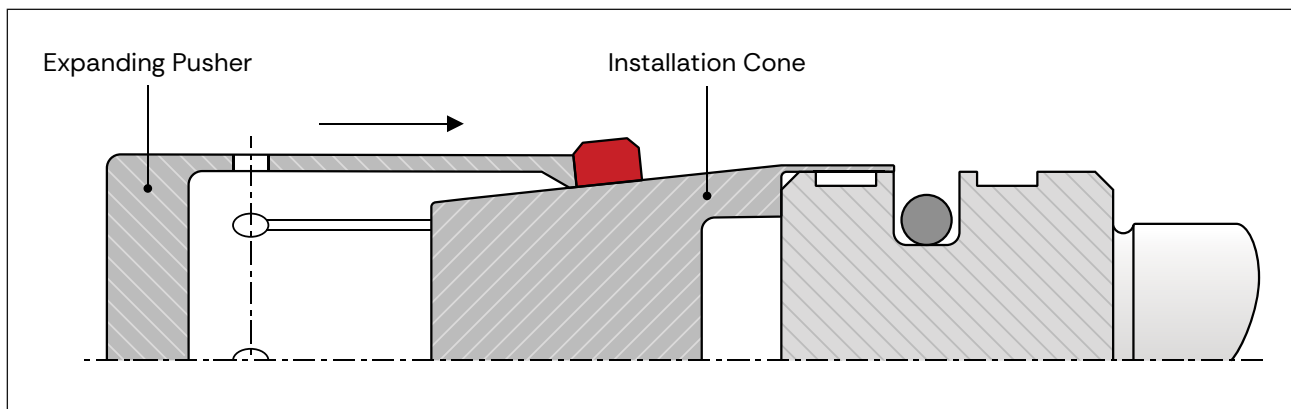

Figure 40: Expansion of a sealing ring over the installation cone.
- Start by placing the O-ring into the groove, then carefully expand the seal ring over the installation cone (see figure 40). For PTFE seals, heating the material in oil, water, or with a hot air fan to approximately 80–100 °C can facilitate installation by temporarily expanding the seal.